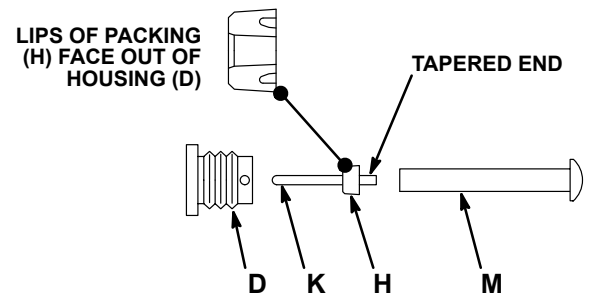

Fig 8 0292
8. Grease the needle (K) and packing (H). Insert the tapered end of the needle into the back (flat) side of the packing. See Fig 8.
9. Guide the tapered end of the needle into the assembly tool (M) and press the lips of the packing over the end of the tool. See Fig 8.
10. Guide the tool (M) into the fluid housing (D) until the needle protrudes through the bottom of the housing. Lightly tap the end of the tool until you "hear" the packing bottom in the housing. Remove the tool with pliers. See Fig 8.